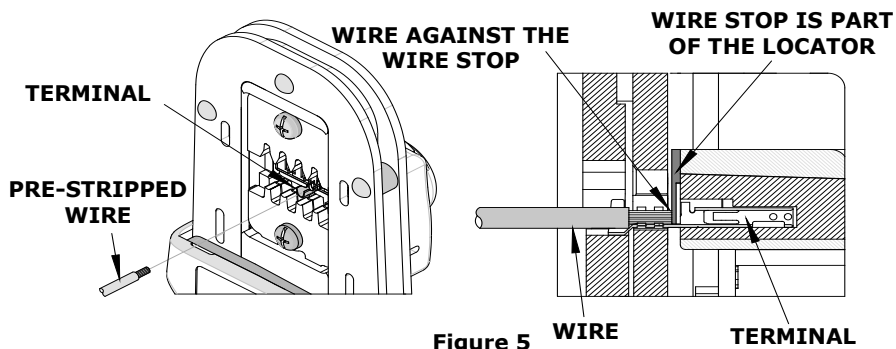

Figure 5 WIRE TERMINAL
6. Insert the properly stripped wire through the terminal and against the wire stop. See Figure 5.